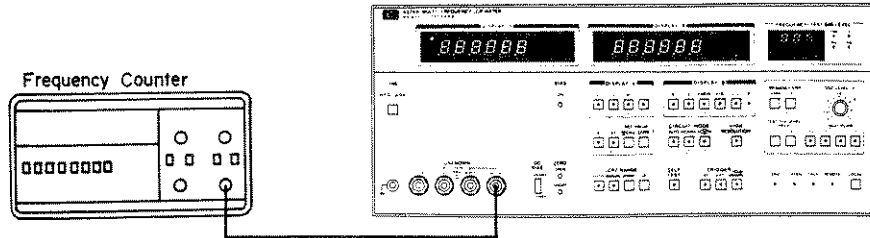

Figure 4-1. Test Frequency Accuracy Test Setup.
1. Connect BNC to BNC cable to 4274A UNKNOWN H_{CUR} terminal and to frequency counter input as shown in Figure 4-1.